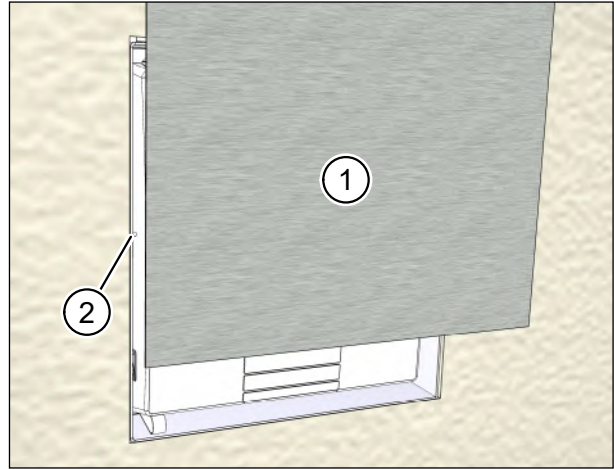

Fig. 48: Attaching the U2 cover plate
- Remove remaining plaster and other soiling so that the U2 cover plate (item 1 in Fig. 48) can lie against the internal wall without gaps.
- ▶ Carefully lower the cover plate. The recesses on the retaining plates slide around the pins (item 2 in Fig. 48) of the wall box frame.